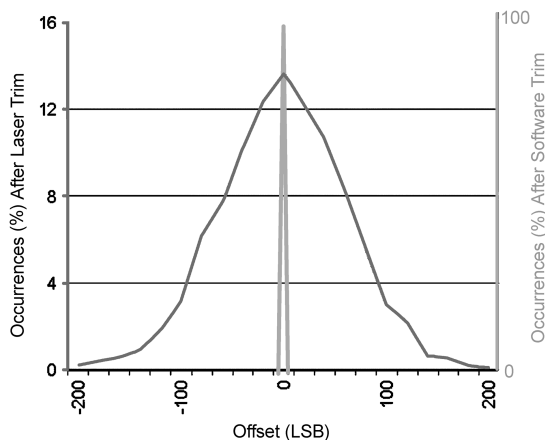

Figure 6-5. Offset Distribution Histogram including Soft-Trim Improvement
Figure 6-5 shows the LM96511 B-mode offset, measured through the ADC. As can be seen, Soft-trim allows extremely accurate offset adjustment (typically within 1LSB) and allows significant tightening of the distribution.
Figure 6-5 shows the LM96511 B-mode TGC in action. In this diagram, a 5MHz ultrasound signal enters the LNA with 350mVPP single ended Near Field (NF) amplitude and the signal path headroom runs into clipping. 3.5VPP differential NF amplitude appears at the LNA output (Differential gain = 20dB) where the DVGA TGC will equalize the signal so that the ADC FS range of 3.12VPP (with IOR On or 4.4VPP with IOR off) can be transversed to maximize the data acquisition resolution. Note that the LM96511's B-mode ADC operates off a 1.2V supply and yet can accommodate 3.12VPP\_FS with IOR on or 4.4VPP\_FS with IOR off. This is because of the coupling resistor ladder built into the ADC in spite of ADC input noise level performance which does not impact ENOB.